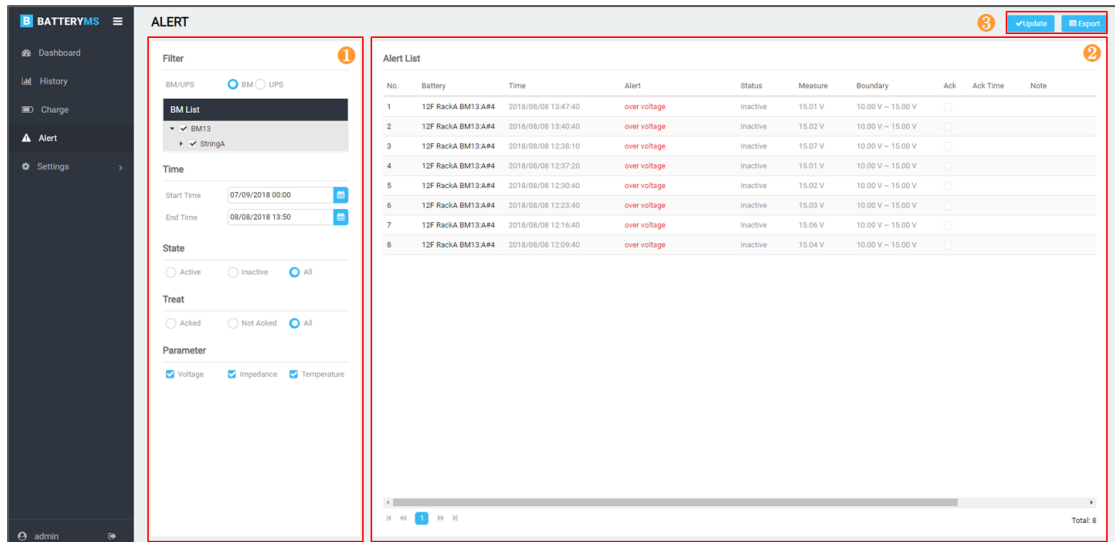

Figure 3.27 Distinct areas on Alert page
On the Alert page, there are three distinct areas. Alert event filter (1) in Figure 3.27) provides several conditions for filtering the alert events. Alert List (2) in Figure 3.27) displays the events filtered according to the filtering conditions on the left side. After reviewing the alert list, users can make some notes and then Update or Export (3) in Figure 3.27) the alert events for further analysis.